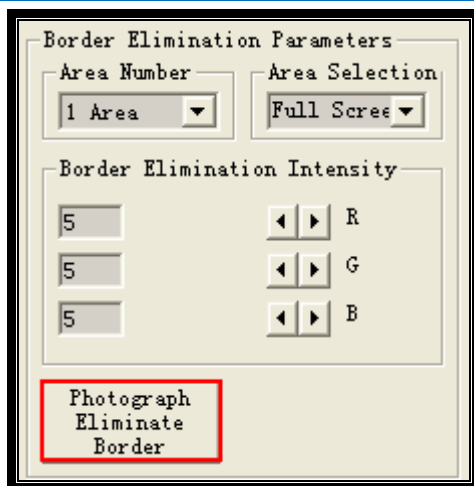

Fig.3-34
- (1) Move the camera until it can shoot the whole screen.
- (2) Click the “Photograph Eliminate Border” button in the frame of **Border Elimination Parameters**. As shown in fig.3-34. Software will automatically take pictures and eliminate the border.